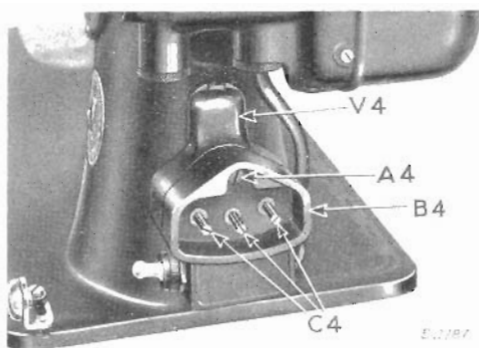

FIG. 7. THREE-PIN TERMINAL IN PLACE ON MACHINE 201-2
in Figs. 7 and 15, pages 13 and 21; also in connection with Machine 201-3 in Fig. 22, page 31.
**Three-Pin Terminal.** Remove the screw (A4, Fig. 7) to displace the three-pin terminal (B4) from its bracket (V4) on the
**Replace the Three-Pin Terminal--Machine 201-2.** Replace the bracket (V4) and insert and tighten the screw at (F13). Make sure that the three-pin terminal (B4, Figs. 7 and 10) is firmly seated on the bracket (V4) and insert and tighten the screw (A4, Fig. 7).